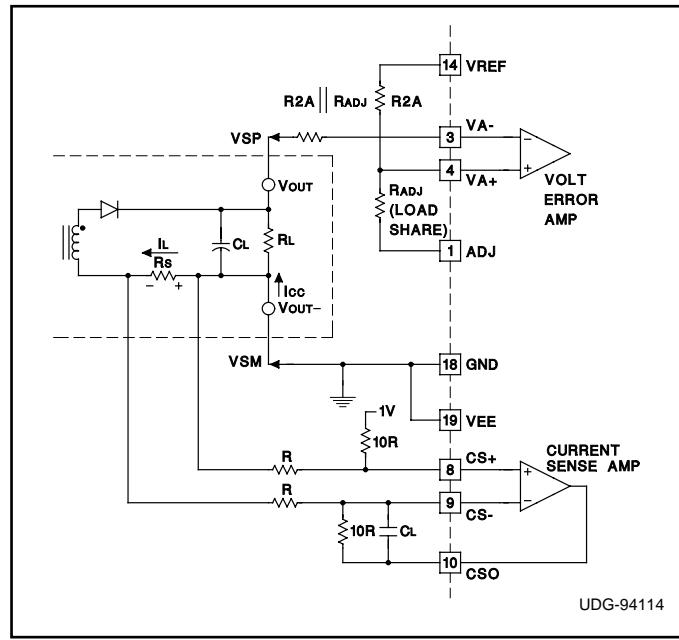

Figure 6. Voltage and Current Sense VEE Tied to GND
**Grounds, Voltage Sensing and Current Sensing:** The voltage is sensed directly at the load. Proper load sharing requires the same sensed voltage for each power supply connected in parallel. Referring to Figure 6, the positive sense voltage (VSP) connects to the voltage error amplifier inverting terminal (VA-), the return lead for the on-chip reference is used as the negative sense (VSM). The current is sensed across the shunt resistor, RS.
Figure 6 shows one recommended voltage and current sensing scheme when VEE is connected to GND. The signal ground is the negative sense point for the output voltage and the positive sense point for the output current. The voltage offset on the current sense amplifier is not needed if VEE is separated from GND. VEE is the negative supply for the current sense amplifier. When it is separated from GND, it extends the current sense amplifier's common mode input voltage range to include VEE which is approximately -0.7V below ground. The resistor RADJ is used for load sharing. The unit which is the master will force VADJ to 1.0V. Therefore, the regulated voltage being sensed is actually: